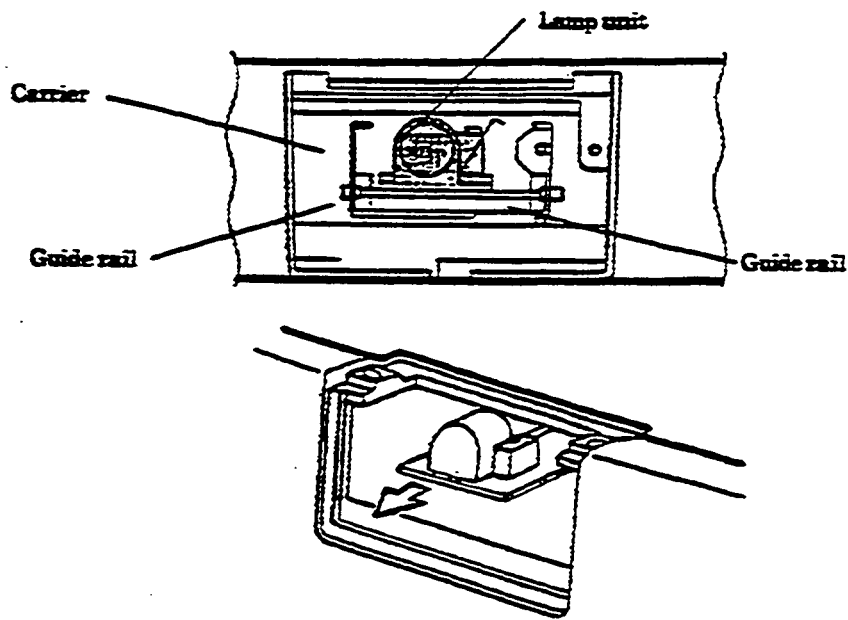

Figure 5.1 Lamp unit removal
- (1) Turn off the power.
- (2) Power on with pressing 'Mode' switch and 'Select' switch.
- (3) After the carrier moves to the center of Flat-bed, turn off the power. (LCD indicates 'Power-off!!')
- (4) Remove the document cover and lamp cover.
- (5) Pull out the lamp unit. (Meshed parts in Figure 5.1)